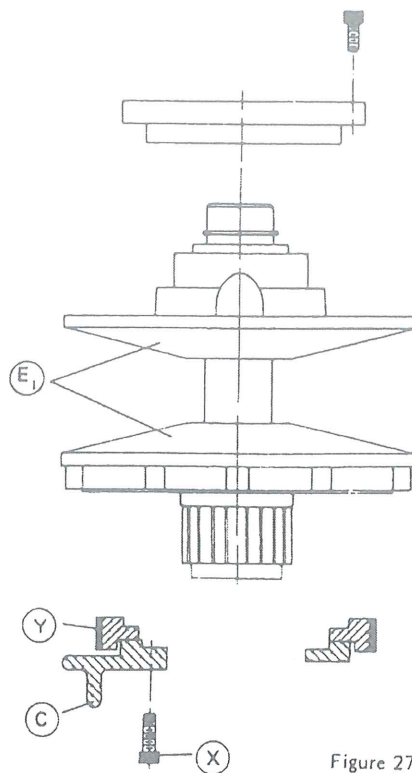

Figure 27
3. Brake Block Replacement (Fig. 27):
- c. Remove vari-disk assembly set "E1" (Fig. 27) by removing bolt "X". Brake block "Y" can now be replaced.